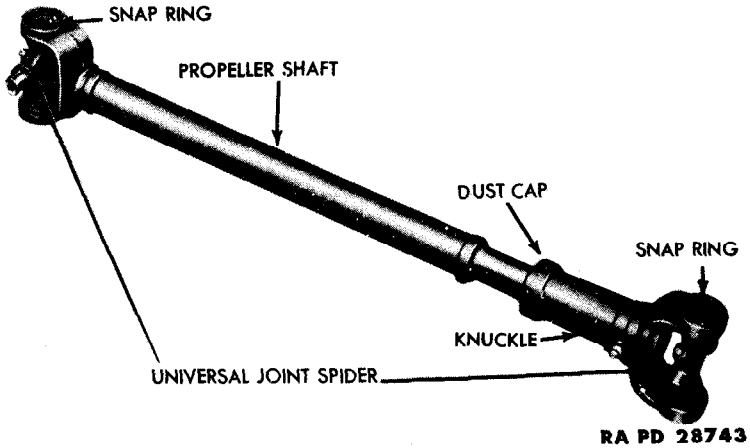

Figure 30 — Front Propeller Shaft
a. Front Propeller Shaft (fig. 30).
(1) REMOVE SNAP RINGS FROM YOKE (fig. 30). Place the propeller shaft in a vise. Remove the snap rings that secure the spider bearings in the yoke flange with a pair of pliers. If the snap ring does not snap out of the groove, tap the end of the bearing lightly. This will relieve the pressure against the snap ring.
(3) **REMOVE KNUCKLE FROM SHAFT** (fig. 30). Bend the ears of the dust cap off the knuckle. Slide the knuckle off the drive shaft. Remove the split cork gasket from the bearing cap. Line up the slots in the dust cap with the splines on the drive shaft and remove the cap from the shaft.